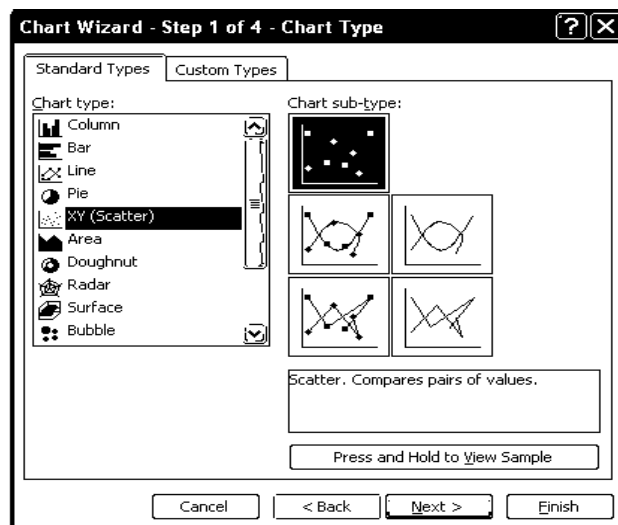

Figure 7
1. Insert> chart, the chart wizard appears or click the chart wizard button on the standard toolbar, the chart wizard appears (**Fig. 7**). The chart wizard brings you through the process of creating a chart by displaying the chart wizard consisting of series of dialog boxes.